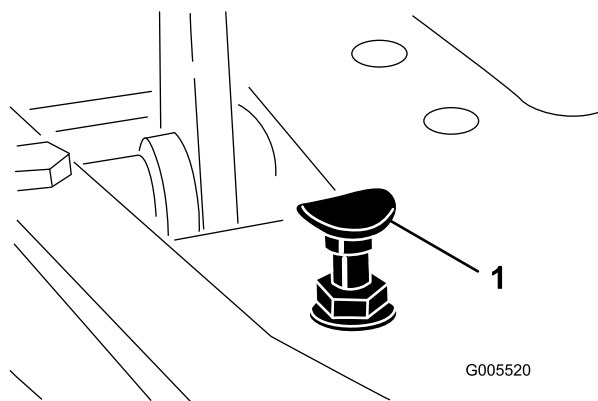

Figure 48
To obtain the maximum-transport speed, put the functional control lever in the TRANSPORT position and press down on the traction pedal. If the pedal contacts the stop (Figure 48) before you feel tension on the cable, perform the following adjustment procedure:
1. Put the functional-control lever in the TRANSPORT position and loosen the locknut securing the pedal stop to the floor plate (Figure 48).